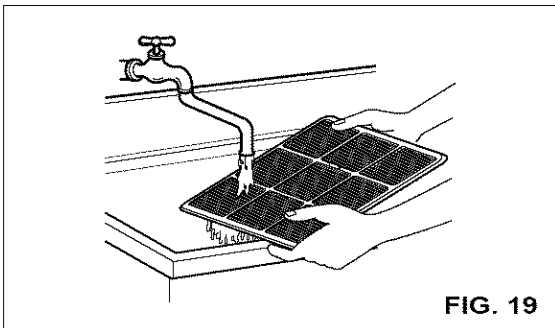

FIG. 19
- Wash the Air Filter under the faucet with warm water. Be sure to shake off all the water before replacing the filter. (FIG. 19)